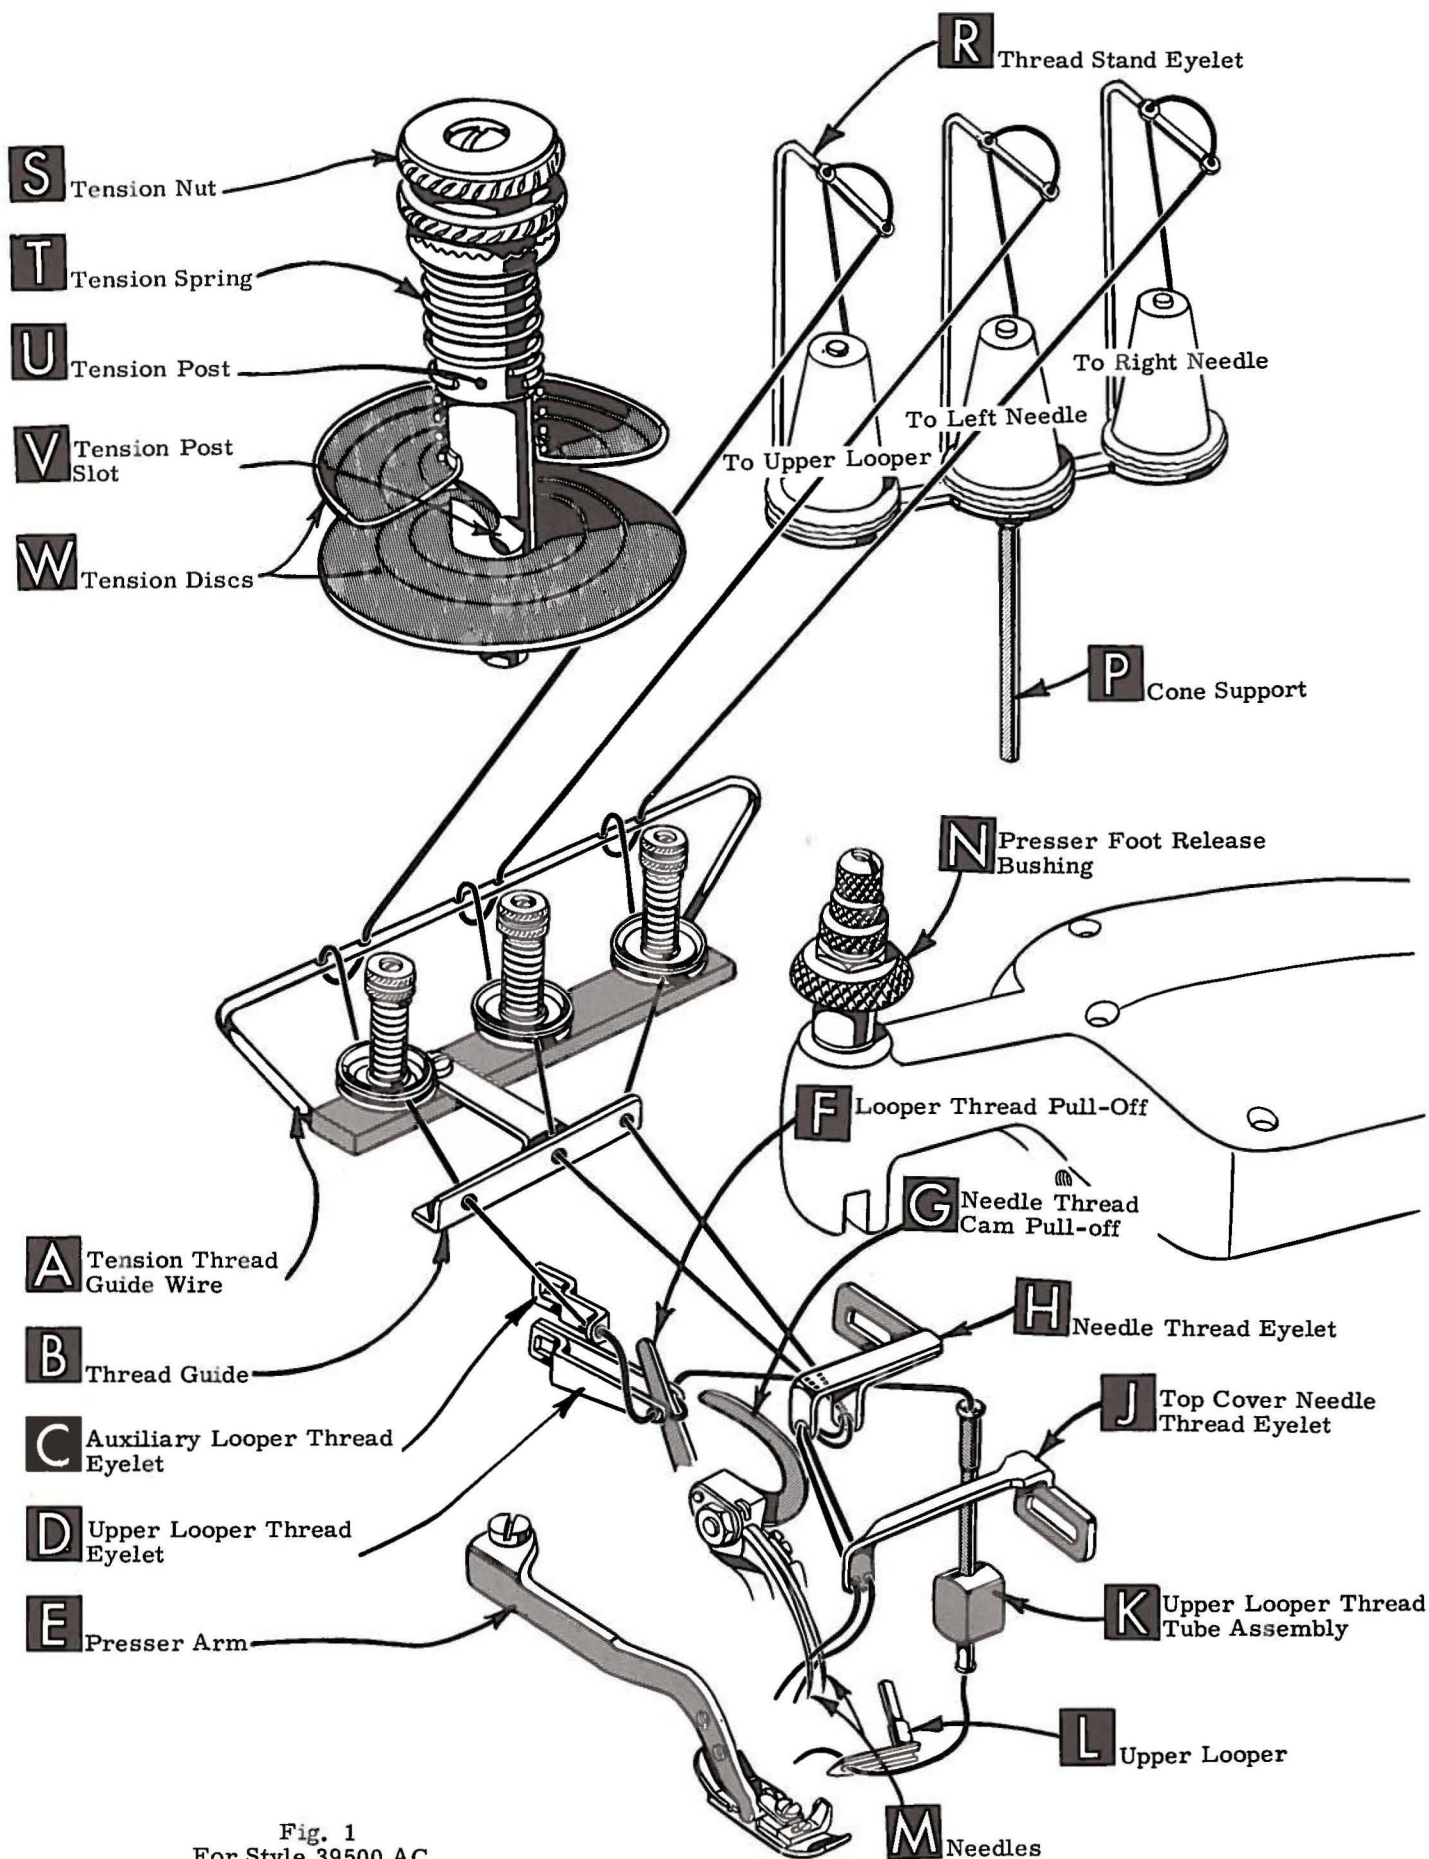
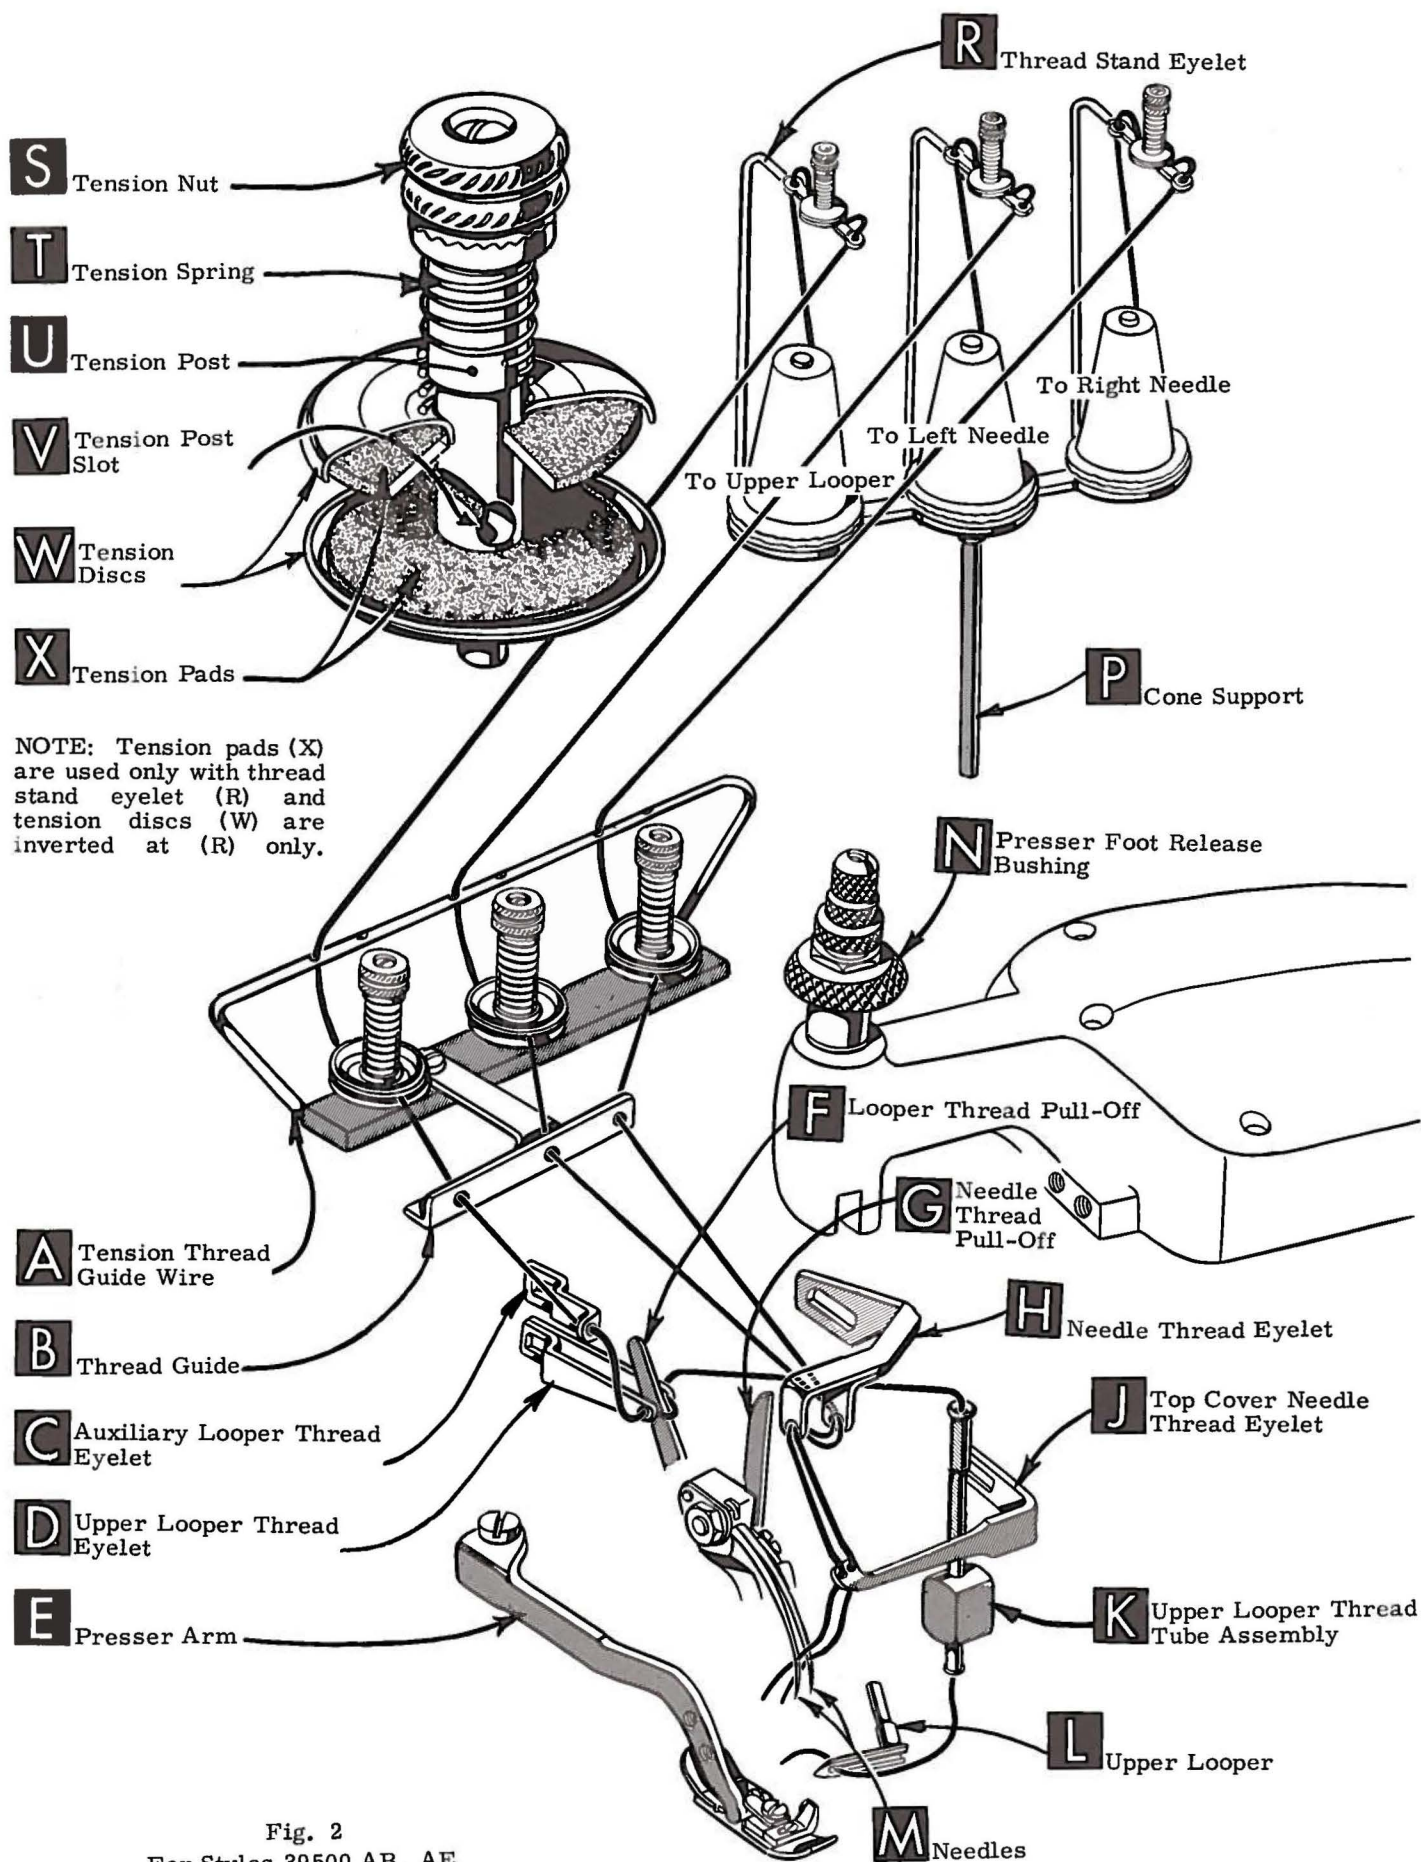

Fig. 1
Fig. 2
Release pressure on presser foot by turning presser foot release bushing (N, Figs. 1 and 2), and swing presser arm (E) out of position. Turn handwheel in the operating direction until needles are at their lowest point of travel. Using hexagonal socket wrench, No. 21388 AU, furnished with machine, loosen needle clamp nut about 1/4 turn. Again turn handwheel until needles are at high position; withdraw needles.
After thread comes from thread cones (positioned on cone support (P)), it is brought up through BACK thread eyelet, then down through FRONT thread eyelet (R, Fig. 1). Next, thread is extended down through the right hand hole and up through left hand hole of the tension thread guide wire (A). Thread is then continued between tension discs (W), through slot (V), and on through thread guide (B).
After thread comes from cones (positioned on cone support (P)), it is brought up through the BACK thread eyelet, then continues between felt pads (X) through slot (V), and down through FRONT thread eyelet (R, Fig. 2). Next, thread is extended down through the left hand hole in the tension thread guide wire (A), through holes in the thread guide (B).
Only parts involved in threading are shown in threading diagrams (Figs. 1 and 2). Parts are presented in their relative positions for clarity.
CAUTION! Make sure the threads, as they extend from the tension thread guide wire (A, Figs. 1 and 2), are between tension discs (W) and in diagonal slots (V) of the tension posts (U).
The amount of tension on the needle and looper threads is regulated by three knurled tension nuts (S, Figs. 1 and 2). Tension on threads should be only sufficient to secure proper stitch formation.
Be sure machine is threaded according to diagram for your style of machine (either Fig. 1 or Fig. 2). With thread tensions light, set looper thread eyelet (D, Figs. 1 and 2) about horizontal and back in its front to back location. Operate machine slowly, without presser foot in place, to make sure that chain forms and moves off the tongue freely. Swing presser foot into position, insert material, and sew slowly.
About 60% of needle thread is drawn from cones on needle down stroke. The remaining 40% is drawn on the upstroke. With needle at bottom of stroke, position needle thread eyelet (H, Fig. 1) so that needle thread cam pull-off (G) just contacts needle thread.
Usually, all needle thread is drawn on needle down stroke. At top of needle stroke, thread should be just tight enough to feed chain off stitch tongue. Needle threads tend to pull down slightly if excessive thread is pulled on the up stroke. With needles at bottom of stroke, position needle thread pull-off eyelet (H, Fig. 2) so that the needle thread pull-off (G) draws the proper amount of needle thread to satisfy the above conditions.
During needle down stroke, forward stroke of looper thread pull-off (F, Fig. 1 or Fig. 2) will draw upper looper thread through the tension. When normal amount of looper thread is drawn, upper looper thread will have almost all slack taken up as looper thread pull-off reaches its most rearward position.
If upper looper thread has a loose appearance in the seam, move looper thread pull-off eyelet (D, Fig. 1) forward and raise slightly. If, however, the eyelet is raised too high and moved too far forward, the looper thread will tend to break excessively--even with a minimum amount of looper thread tension applied.
If upper looper thread has loose appearance in the seam, move looper thread pull-off eyelet (D, Fig. 2) forward slightly. If, however, the eyelet is too far forward, the looper thread will tend to break excessively--even with a minimum amount of looper thread tension applied.